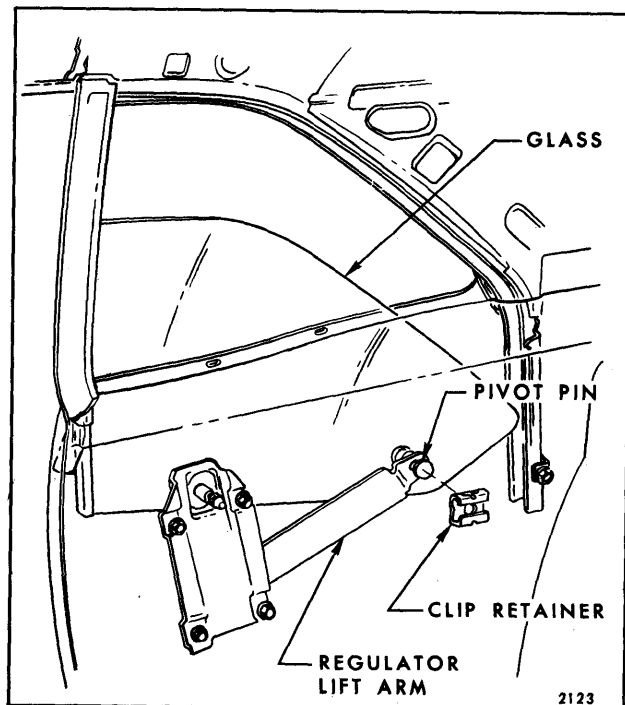
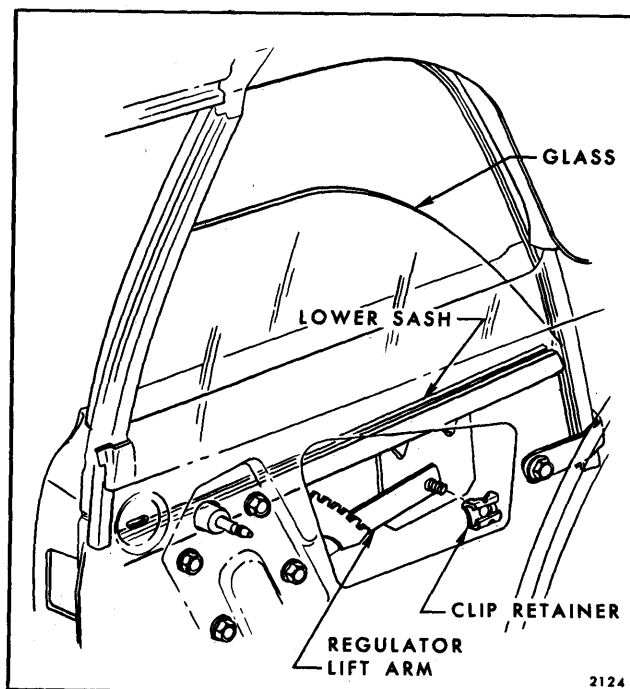

Fig. 7-3—Rear Quarter Window Attachment - "A" Closed Styles Shown - "X" Typical
Fig. 7-4—Rear Quarter Window Attachment - "B-11" Styles
2. Operate window to position shown in Figure 7-3 for "A" and "X" styles, and Figure 7-4 for "B" styles.
arm by removing slotted retainer (see Fig. 7-4).